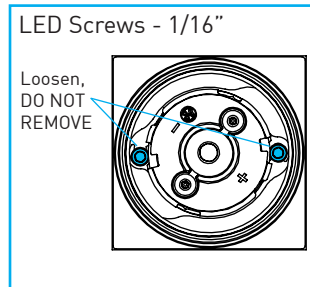

Fig.23
**Remote:** Using a 1/16" allen key, loosen **(do not remove)** LED screws, rotating LED module counter-clockwise to remove from remodel housing. *(Fig.23)*